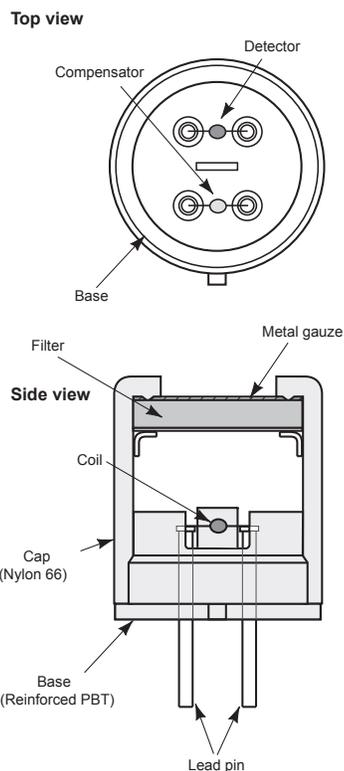

Fig. 1 - Sensor structure
Figure 1 shows the structure of TGS6810-D00. The sensor is comprised of two elements: element (D) which is sensitive to combustible gases, and a reference element (C) which does not have sensitivity to combustible gases. The sensing element (D) is made of alumina doped with catalysts, while the reference element (C) is made of alumina. Both coils are made of Pt wire, and the wires of both elements (D) and (C) are connected to nickel pins No. 2 & 3 and No. 1 & 4 respectively. The sensor base is made of reinforced Polybutylene Terephthalate (PBT) while the sensor cap is made of Nylon 66. The upper opening in the cap is covered with a double layer of 100 mesh stainless steel gauze (SUS316). The TGS6810-D00 utilizes a proprietary filter material inside the cap for reducing the influence of interference gases.